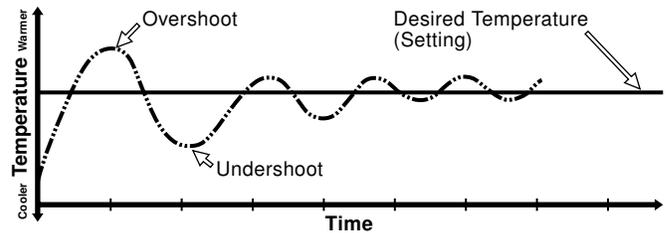

Fig. 4 Proportional + Integral function
Proportional + Integral (PI) processing can identify the amount of offset there is between the actual temperature and the desired temperature and adjust the control action to compensate. Figure 4 shows how this extra processing step results in more accurate temperature control. Most electronic controls are PI controls.